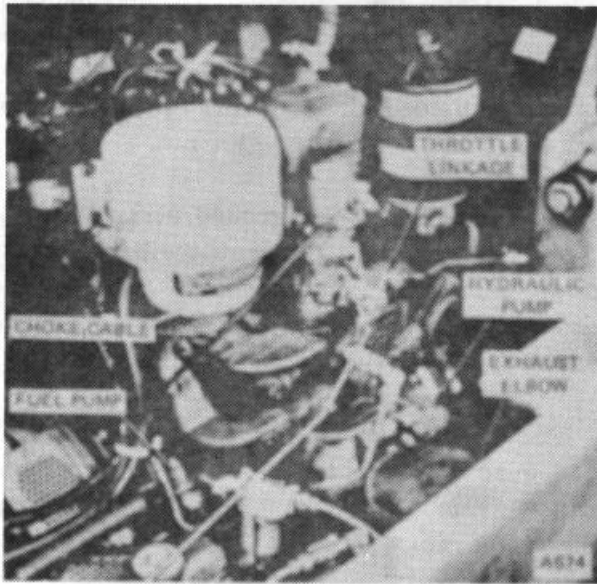

Figure 4.
7. Disconnect the fuel line from the fuel pump; the exhaust elbow at the muffler; the hydraulic lines from the oil pump. (Fig. 4) Cap all hydraulic openings.